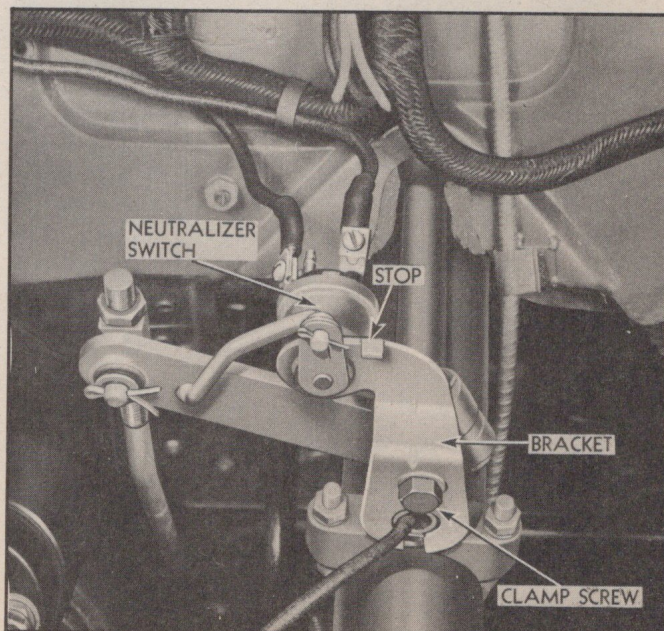

Fig. 76—Neutralizer Switch
2. Loosen neutralizer switch bracket clamp screw (Fig. 76).